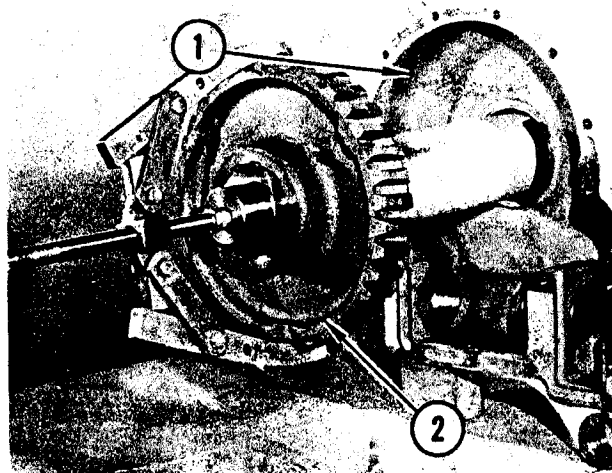

FIGURE 8. LIFT GEAR REMOVAL
Refer to Figure 8. Move gear housing (1) back on lift shaft far enough to permit in-